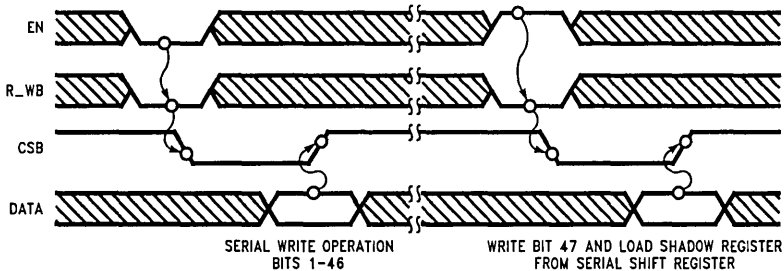

FIGURE 3-4. Control Register Write Operations
- Figure 3-4 Control Register Write Operations